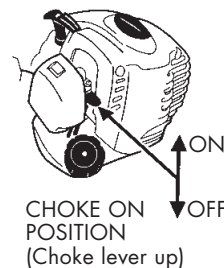

FIG 12
2. Slide choke lever up to full choke ON position (Fig. 12).